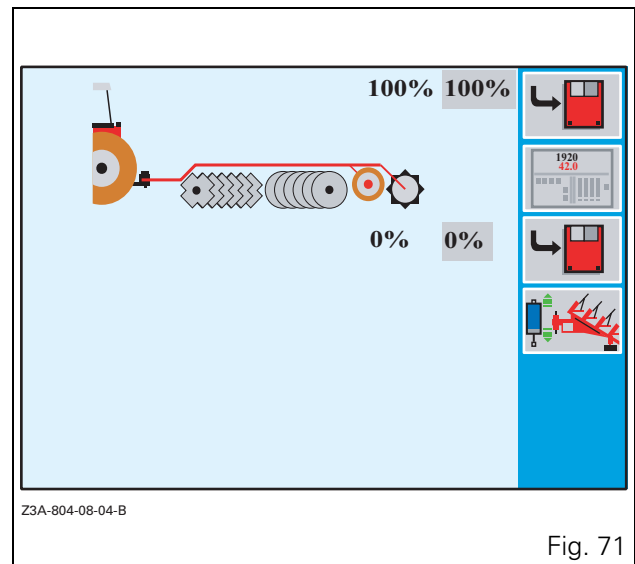

Fig. 71
- Pressing the key «5 returns the user to the TIC configuration menu (Fig. 71).
NOTE: For data description and settings (Fig. 71), see section 7.8. (DUAL CONTROL application).